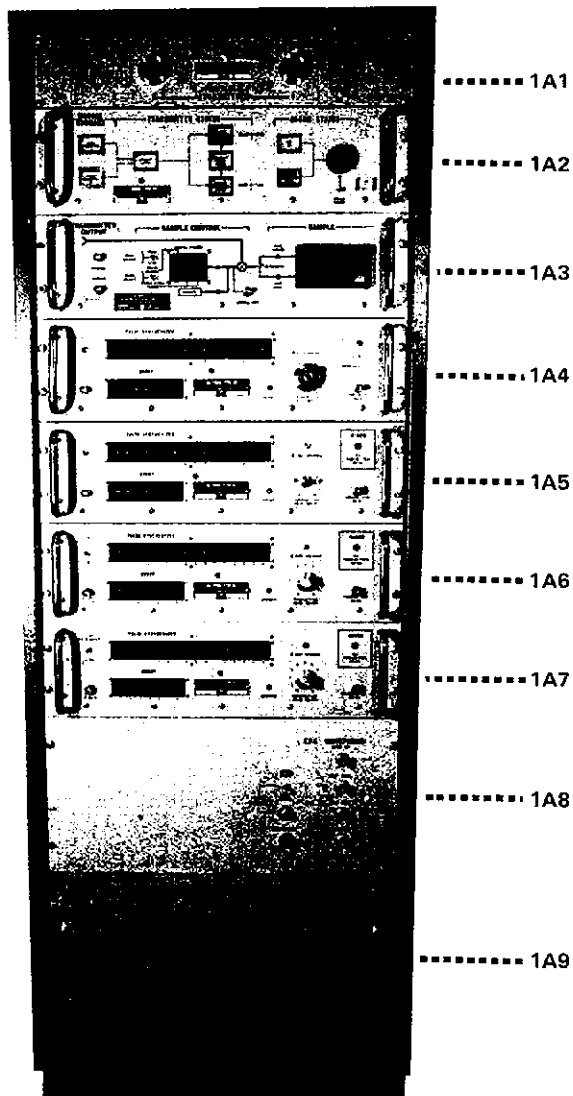
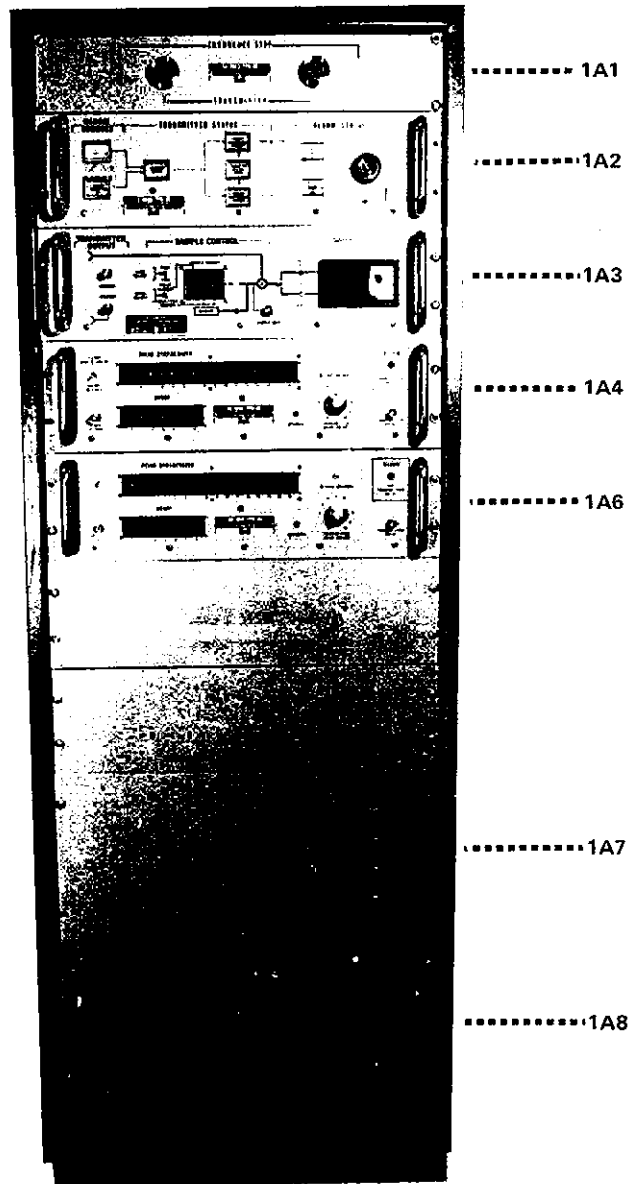
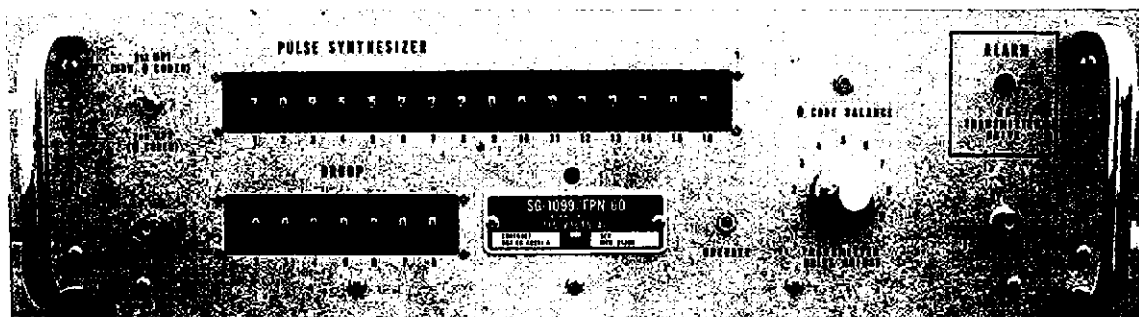

Figure 1.1. AN/FPN-60(V2) Transmitter Control Set
Figure 1.2. AN/FPN-60(V1) Transmitter Control Set
Figure 1.6. 1A4-1A7 - Pulse Generator (SG-1099/FPN-60)
1.1 Introduction. This Technical Manual provides a description of the various units of the AN/FPN-60(V) Transmitter Control Set (TCS). The Transmitter Control Set (TCS) is installed at LORAN-C Transmitting Stations which have the AN/FPN-39, 42, 44, 44A, or 45 LORAN-C Transmitter installed. The Transmitter Control Set generates the drive waveforms for the transmitters and monitors the transmitter status and parameters of the transmitted signal. The TCS also provides an interface between the transmitter and the timing and control equipment. Figures 1.1 and 1.2 show the equipment for a dual-rate and single-rate configuration, respectively. Figure 7.1 is the Loran-C System Block Diagram. Appendix A contains diagrams of changes that have been made to the various transmitters, and have not been placed in the transmitter technical manuals.
1.2.1 The Transmitter Control Set (Figures 1.1 and 1.2) performs the following functions:
1.3.4 Pulse Generator (1A4-1A7). A dual-rated station has Pulse Generators 1A4 thru 1A7 (see Figure 1.1). A single-rated station has Pulse Generators 1A4 and 1A6 (see Figure 1.2). The Pulse Generator (Figure 1.6) contains the Pulse Control Module W0678-2/PCON, Group Droop Module W0678-19B/GR DROOP (for dual-rated stations and stations having tail drive), and Pulse Synthesizer Module W0678-1/PSYN. The Group Droop Module W0678-20/GR DROOP is unique to LORAN STATION CAPE RACE, replacing the W0678-19B/GR DROOP module. The Pulse Generator (PGEN) performs the following functions: